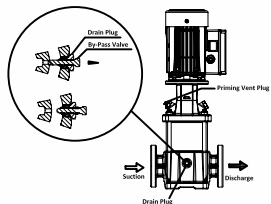
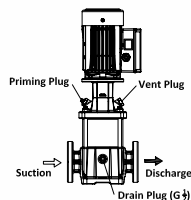

Fig. 11 Plug and valve locations
Fig.12 Plug/valve locations SCR(N)
7.1 Priming : To prime the pump in a closed system or an open system where the water source is above the pump, close the pump isolation valve(s) and open the priming plug on the pump head; see fig. 11 and fig. 12
Motors should not be run unloaded or uncoupled from the pump at any time; damage to the motor bearings will occur. Do not start the pump before priming or venting the pump; see fig. 12. Never operate the pump dry.